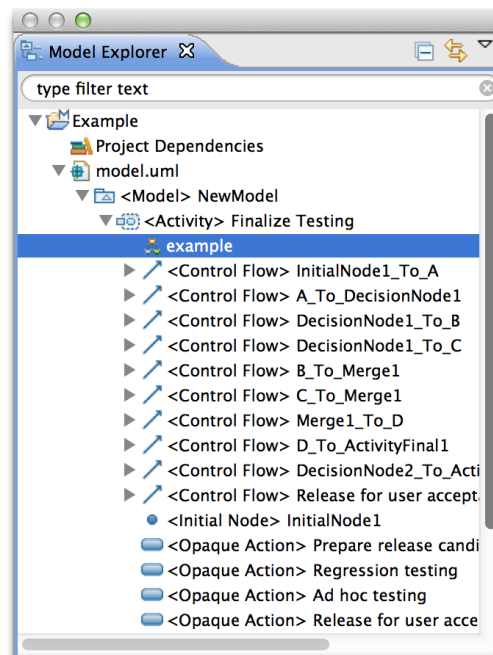

Figure 7 Expand Model explorer
| Figure 7 Expand Model explorer .....  | 8  |
3. This will import a UML project in your current workspace. Open it in the explorer view. Double click the *example* diagram to open it in the editor. (see Figure 7 Expand Model explorer)